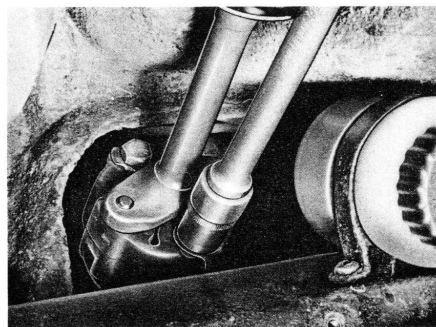

Fig. 68
7. Install steering coupling retaining bolts, using new safety washers, and torque to 2,5 mkp (18,1 lb/ft). See Fig. 68